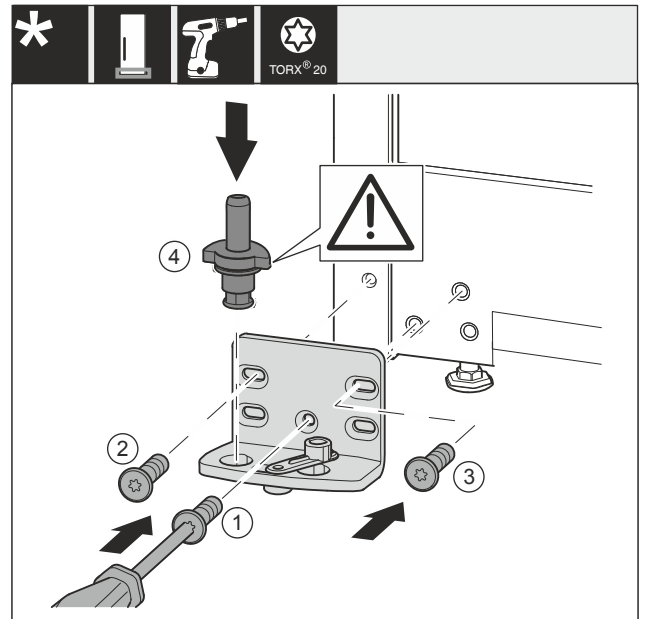

Fig. 38 *
- Place the swap bearing block on the other side and use a screwdriver to screw it on. Start with the Fig. 38 (1) bottom middle.*
- Tighten screw Fig. 38 (2) and Fig. 38 (3).*
- Insert the bearing bolt Fig. 38 (4) completely. Ensure that the latching cam is pointing towards the rear.*